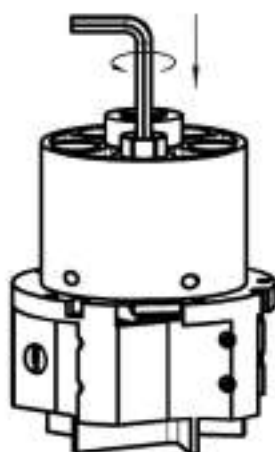

Fig.73: Inserting the female contact
4. Use an Allen key to insert and tighten the new female contact (Fig.73).